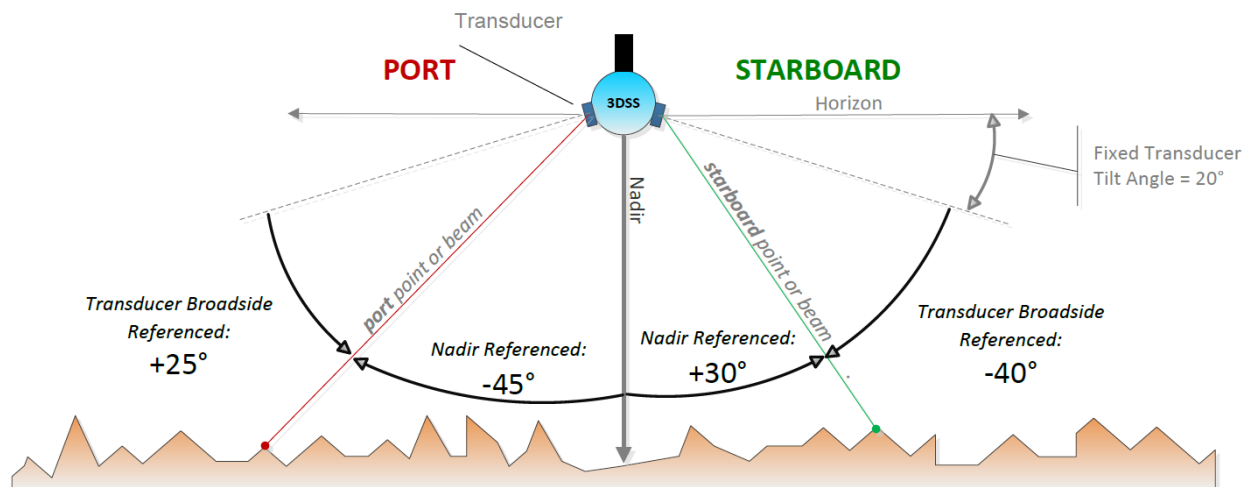

FIGURE 89. XTF CONVERTER BEAM REFERENCE FOR 3D SIDESCAN AND BATHYMETRY
1. Beam or Point Reference – specifies whether to reference the points to the sonar's nadir direction or each transducer's broadside direction. This option is illustrated in Figure 89.
1. Beam or Point Reference – specifies whether to reference the points to the sonar's nadir direction or each transducer's broadside direction. This option is illustrated in Figure 89. *It is important to note that this selection affects the required vessel configuration settings in 3rd party software when importing the XTF data.*